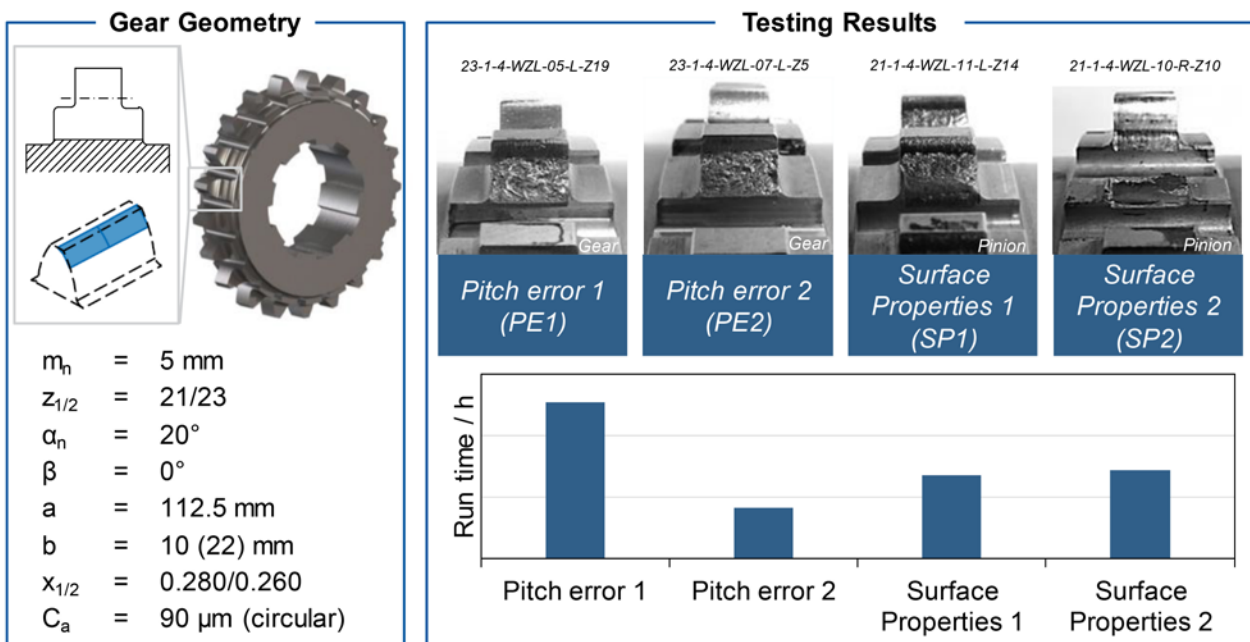

Figure 7 Testing results.
**Testing results.** Figure 7 shows the results of the load capacity tests. The upper part of the figure shows the damage patterns and the lower part shows the run times of the variants up to the point of damage. Except for the SP2 variant—which failed with a broken tooth over the stepped tooth root—all other variants failed from pitting. The results of the investigation show different running times for the gearset variants. However, since only one gearset-per-variant was tested, it is not possible to make a statistically reliable statement about the effects of roughness and pitch deviations on the tooth flank loading capacity.